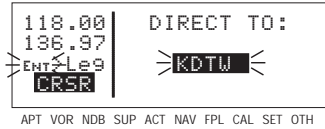

Figure 3-95
1. Press **[ENT]**. The Direct To page is displayed (figure 3-95). The cursor will already be on. A waypoint identifier may or may not be displayed, it doesn't matter at this point.